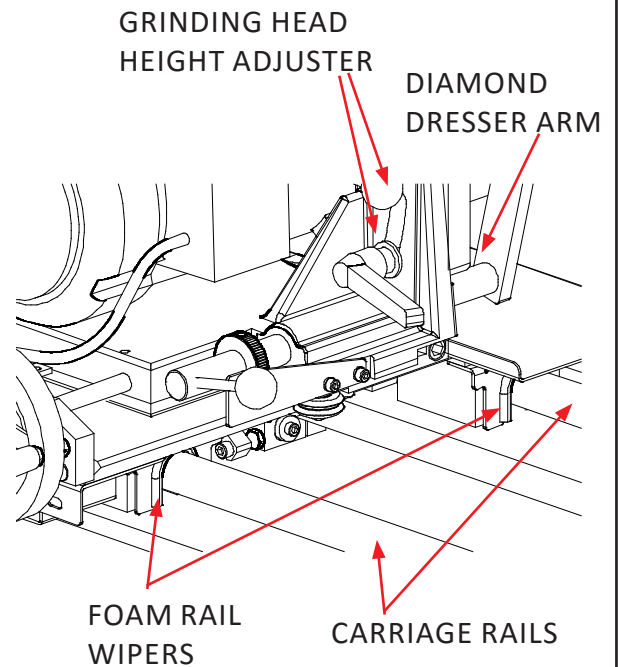

FIG. 3
4. Replace the four foam rail wipers (FIG. 3) every 6 months of operation. Note: If optional bellows are installed the foam wipers are removed.